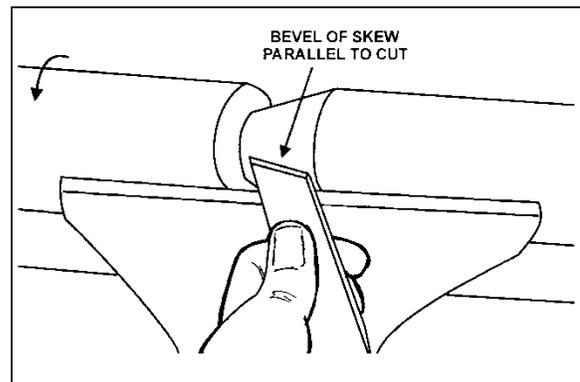

Figure 32
4. With the bevel parallel to the right side of the cut, raise the handle and push the tool in to the desired depth, as shown in Figure 32.